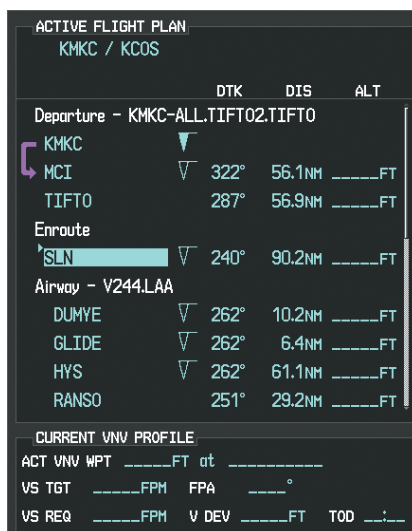

Figure 5-114 Begin Adding V4 to the Flight Plan
- b) The desired entry point for V4 (TOP) must be entered. Turn the large **FMS** Knob to highlight the desired flight plan insertion point (SLN) as shown in Figure 5-114. When the V4 entry point (TOP) is inserted, it is placed immediately above the highlighted waypoint (SLN).